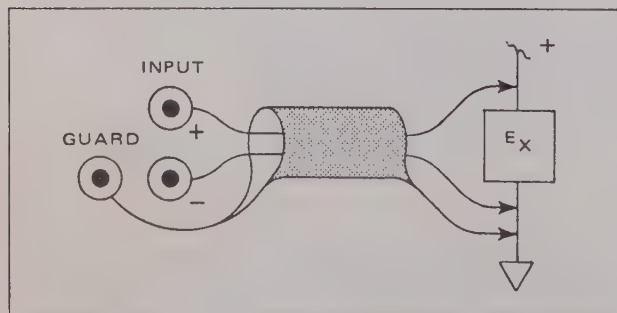

Figure 2.4 - Basic Voltage Measurement Connections
2.23 An ac or dc voltage measurement connection recommended to minimize the effects of noise requires a two-conductor shielded cable connected as shown in figure 2.4.